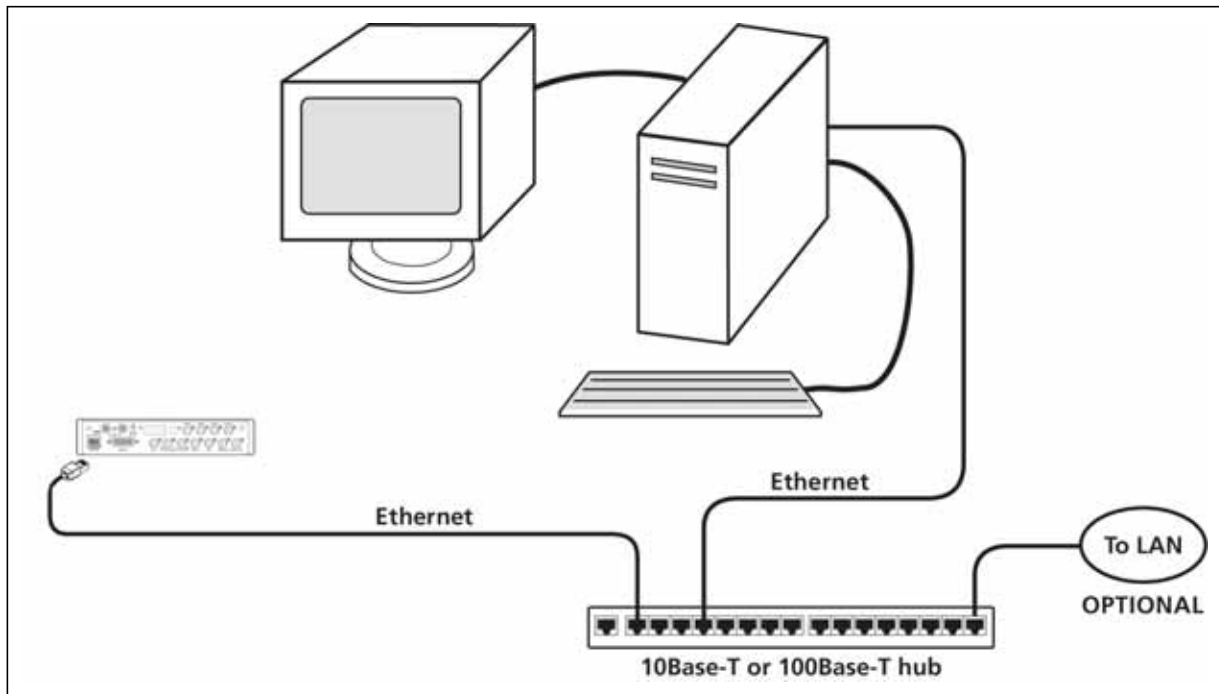

Figure 2-10 VSG-4MTG/VSG-4CSD Network PC Connection
- For a network connection, connect the network hub to the back panel of the VSG-4MTG/VSG-4CSD using a CAT5 network cable (not included). See Figure 2-10.